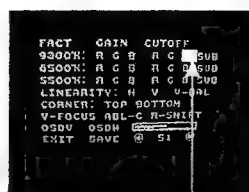
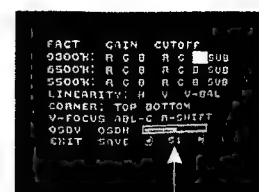
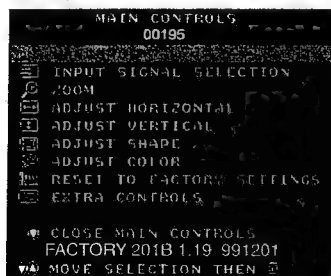

Fig. 2.2
Fig. 2.3
Fig.2.1
Step 1: To select the character "FACTORY MODE" as shown in Fig. 2.1, press " " to access the OSD menu for R/G/B gain & cutoff as shown in Fig. 2.2.
Step 2: Press " " for function selection as shown in Fig. 2.3.
Step 3: Use " " to increase or decrease the value as shown in Fig. 2.3.
- : Press " " to show the OSD menu as shown in Fig. 2.1.
- : Select the character "FACTORY MODE" to access the R/G/B adjustment as shown in Fig. 2.2 and Fig. 2.3.
7.6 : Select the 6500K colour temperature as shown in Fig. 2.2.
7.7 : Select the 5500K colour temperature as shown in Fig. 2.2.